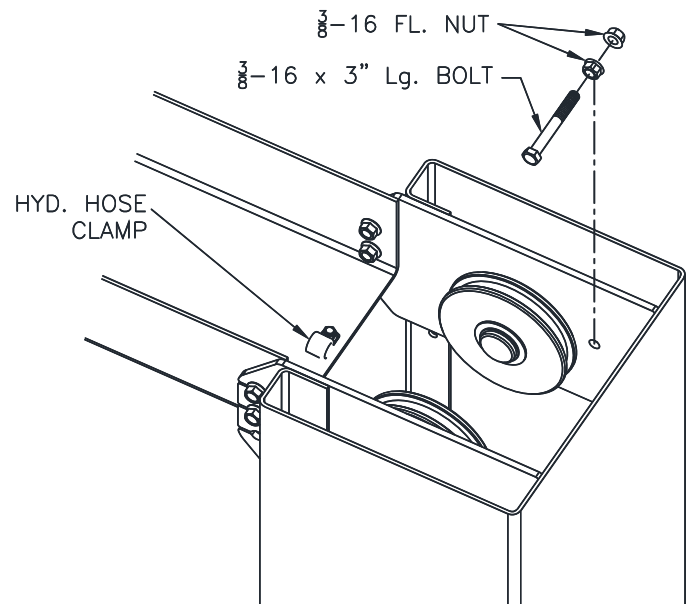

Fig. 9 – Cable Trapping
- 29) Remove Cable Trapping Hardware at the top of each column. **Fig 9.** Route free end of cables coming out the top of the carriage up and over the upper sheaves and back down the opposite side. Do this for both cables and install the cable trapping hardware.